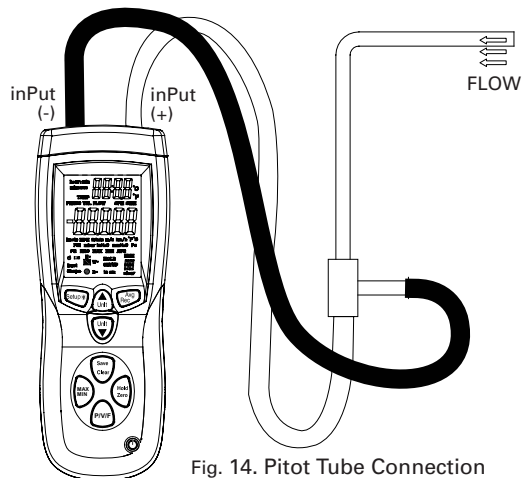

Fig. 14. Pitot Tube Connection
5. When taking a measurement, position the pitot tube tip against the airflow (Fig. 14) and ensure that the axis of the pitot tube is aligned with the duct within  $\pm 10^\circ$ . If the measured velocity value measures negative and shows “Error” on the display, check to make sure that the hoses are attached to the correct ports on the meter and the pitot.